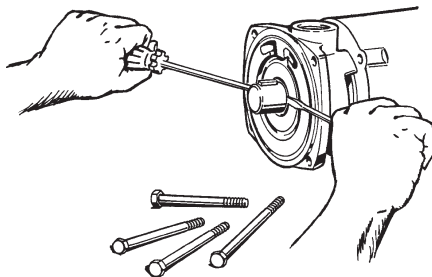

Figure 4-2
- 6. Remove the shaft sleeve (#17). The sleeve is a keyed fit and is removed using two large screw drivers, Refer to Figure 4-2.